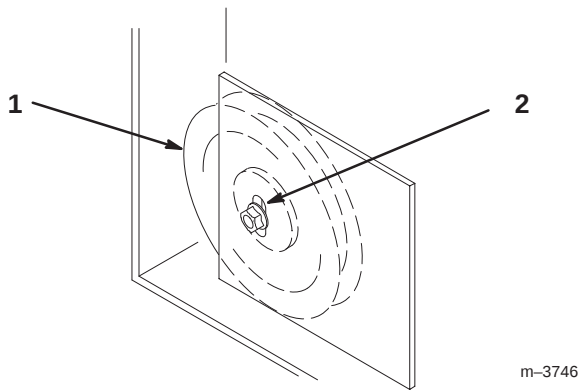

Figure 68
- If adjustment is required, loosen the fixed idler on right support plate and move up or down in adjustment slot (Fig. 68). To relieve belt tension lift up on spring loaded idler.